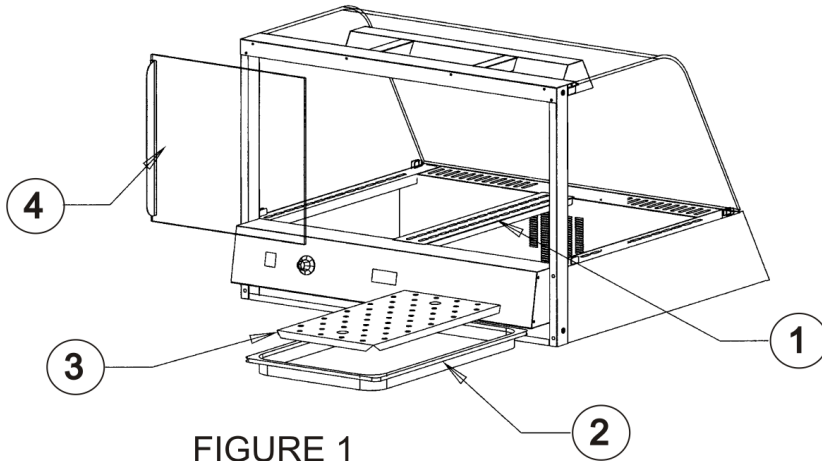

FIGURE 1
5. Place baffles (#3) inside water pans (#2) and slide in place through bottom opening in back of unit (Fig.1).